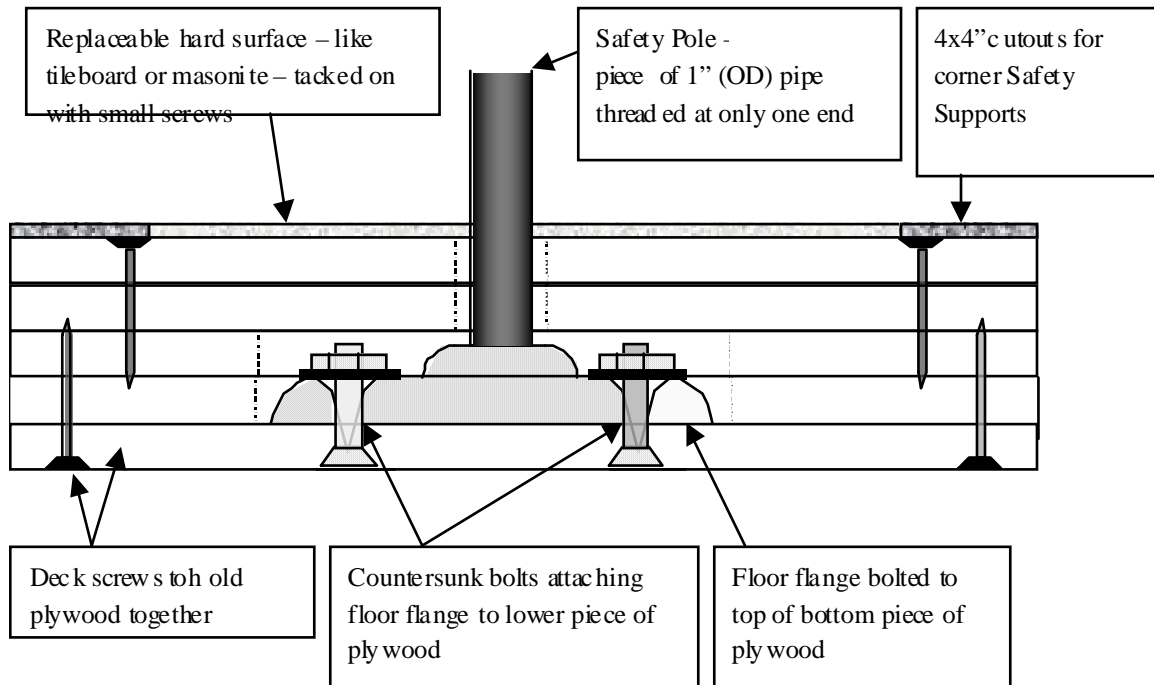

Figure 3 Side view of tester base showing 5 layers and position of flange
The Tester Base is basically built around a 1" (OD or outer diameter) pipe floor flange. The floor flange is needed to hold the Safety Pole perpendicular to the surface of the Tester Base. The Safety Pole is a 27" long piece of 1" (OD) pipe threaded at one end and screwed into the floor flange. This length is highly dependent on the "HEIGHT OF TESTER POLE" as described in the challenge. There are two 12" pipe extensions that slide into the main Safety Pole. Smaller 6" long 3/4" OD pipe sections should be epoxied into the safety pole extensions to allow seamless joints. Like the Presser Board, the Tester Base is 18" x 18". It also has a replaceable hard surface on the side facing the Structure. Figure 3 provides a crude "exploded side view" of the Tester Base.
The loading on the Tester Base isn't as complex as the loading on the Presser Board (or Safety Supports). Consequently, MDF works almost as well as hardwood plywood for use in the Tester Base. To build the Tester Base, begin with a five 18" squares of plywood (MDF). For two boards, draw an "X" between the corners and cut holes slightly larger than the full diameter of the floor flange (2nd and 3rd board from bottom shown in Fig. 3).
On the bottom board, mark a center X and position the floor flange in the middle and rotate the floor flange so the lines of the "X" are visible through the middle of the four attachment holes of the floor flange. Mark these locations and drill 5/16" holes through the MDF. These holes allow the countersunk screw bolts that will hold the floor flange to the bottom board. The floor flanges are rarely perfectly "square" – so some "shimming" of the flange is usually needed to make the Safety Pole perfectly perpendicular to the Tester Base. The 2nd and 3rd board are fastened to this bottom board with deck screws. (see Fig. 3) Do a final tightening of the flange to the bottom board while checking squareness.
For the 4th and 5th board, mark an X in the center and drill out a hole slightly larger than the iron pipe which fits in the flange. Attach these two boards to the rest of the tester base as shown in Fig. 3.